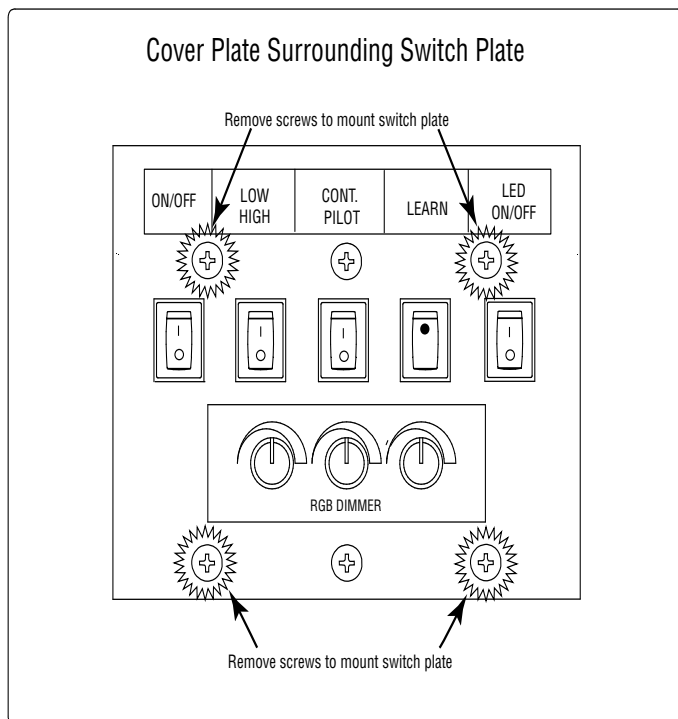

Figure 25 - RGB Control Box with 8-3/4" x 8-3/4" Cover Plate
Step 10: Remove the RGB control box from the components parts carton. The fireplace is supplied with 10-feet of wiring for the RGB control box (switches and dimmer) installation. Find a suitable location within a close proximity of the fireplace for convenience of operation and mount the control box upright and level as shown in *Figure 27*. Use *Figures 25 and 26* for dimensional reference.
Step 11: Remove the four (4) outer screws from each corner inside the cover plate and lift off. See *Figure 25*. This will expose the mounting plate. See *Figure 26*. **CAUTION:** DO NOT REMOVE THE TWO CENTER SCREWS FROM THE COVER PLATE. THIS WILL RELEASE THE ENTIRE SWITCH BOX WIRING FROM INSIDE THE JUNCTION BOX AND MAKE IT DIFFICULT TO REINSTALL.